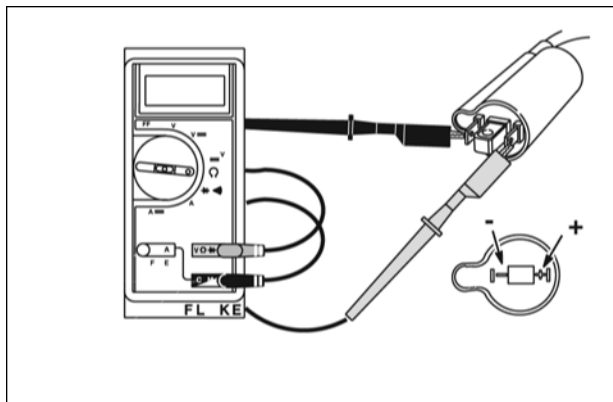

Figure 7
1. Check coil primary resistance between + and - terminals (Figure 7).